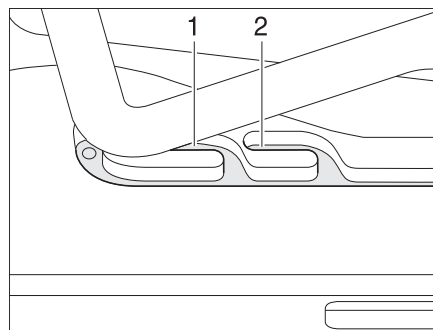
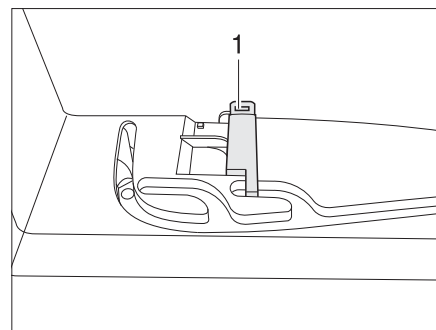

Fig. 85 Heki skylight in ventilation position
Fig. 86 Ventilation position locking mechanism
The Heki skylight can be put in two ventilation positions: Bad weather position (Fig. 85,1) and central position (Fig. 85,2). Depending on the model, the skylight can be locked in the central position with the latch (Fig. 86,1).
- Push the bar slightly upwards and into the selected guide (Fig. 85,1 or 2) and lock if necessary.